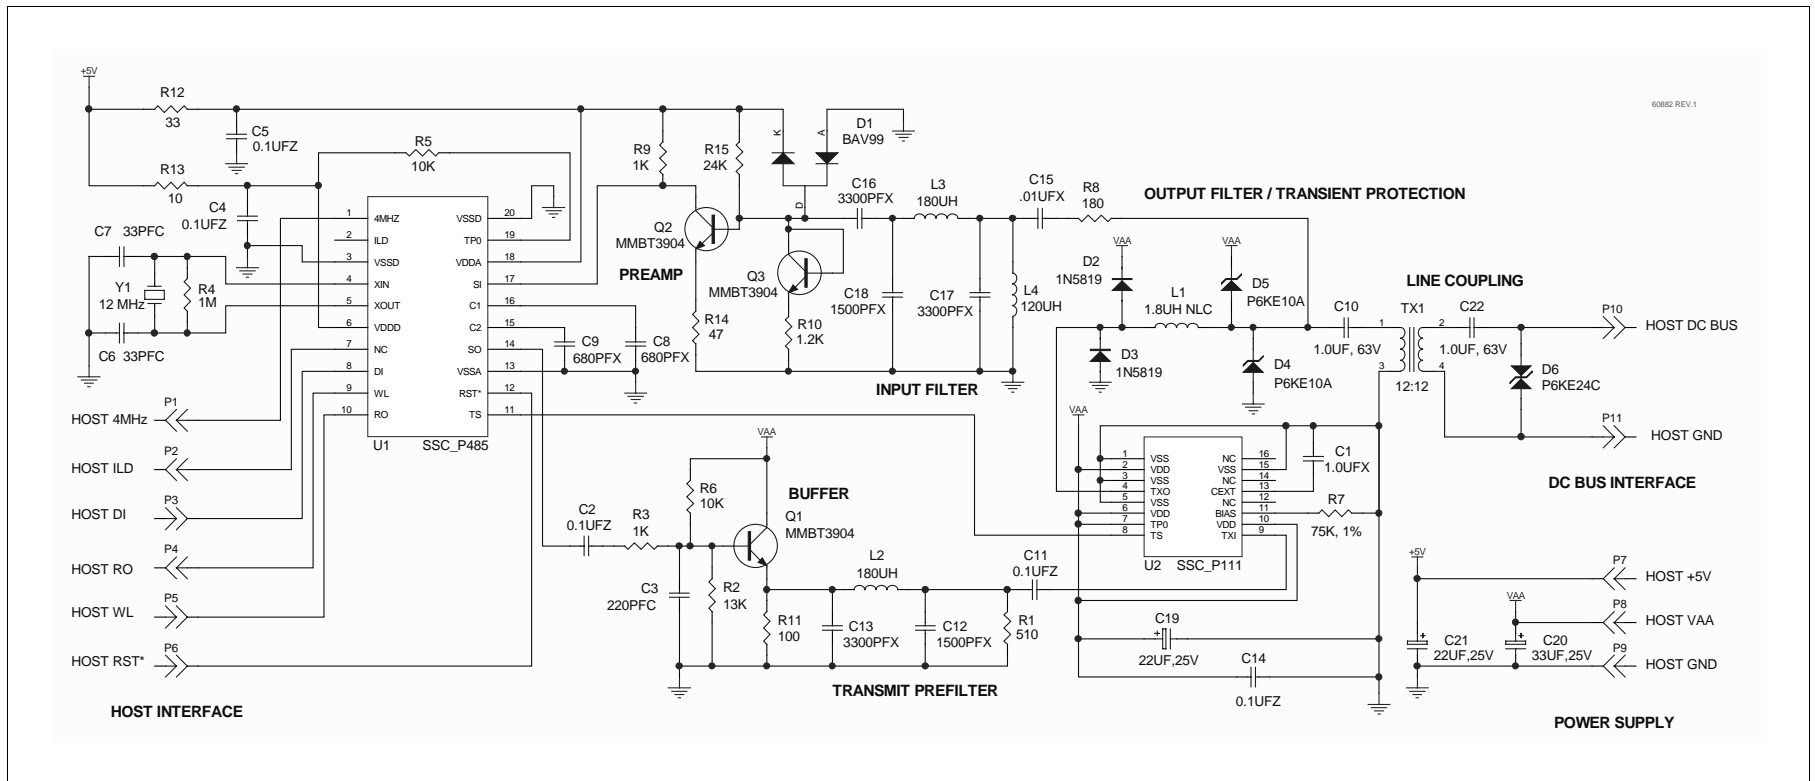

Figure 14. P485 Reference Application
Analog data is transferred between the communication medium and the SSC P485 over the Signal In (SI) and Signal Out (SO) pins (refer to Figure 5). When transmitting, SSC “chirps” from the SSC P485 SO pin are filtered by the output filter to remove harmonic energy (distortion) from the transmit signal and then amplified by the SSC P111 Power Line Media Interface IC. The SSC P111 is a high-efficiency amplifier and tri-state switch specifically designed for use in power line network systems. The amplifier is powered down and its output set to a high impedance condition when the SSC P485 TS\* signal is logic low, isolating the amplifier from the receive circuitry and reducing node power consumption during receive operation. When the SSC P485 TS\* signal is logic high, the communication signal is routed to the communication medium through the coupling circuit (capacitor or transformer). When receiving, the communication signal passes through the coupling circuit and is filtered by the bandpass input filter. The resulting signal is then applied to the SSC P485 SI pin for processing. Refer to the application reference shown in Figure 14.